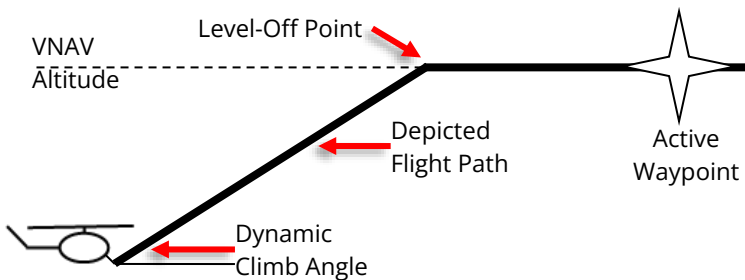

Figure 6-6: Highway in the Sky (Aircraft Referenced)
- 1) The dynamic climb angle emanating from the aircraft's present position (aircraft-referenced) (Figure 6-6);